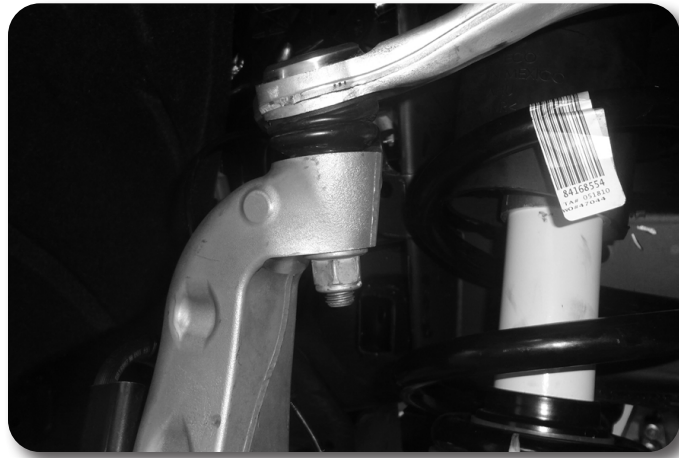
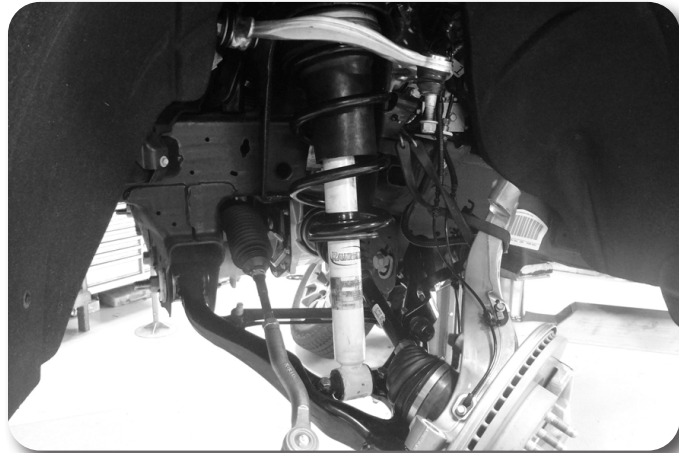

Figure 5A
Figure 5B
8. Support the lower control arm with a hydraulic jack and remove the nut from the upper ball joint. **Figure 5A** Thread the nut back on a couple of turns by hand. Strike the knuckle near the upper ball joint to dislodge the rod end taper from the knuckle. Remove the nut and allow the knuckle to swing rearward out of the way **Figure 5B**. Save the ball joint nut.